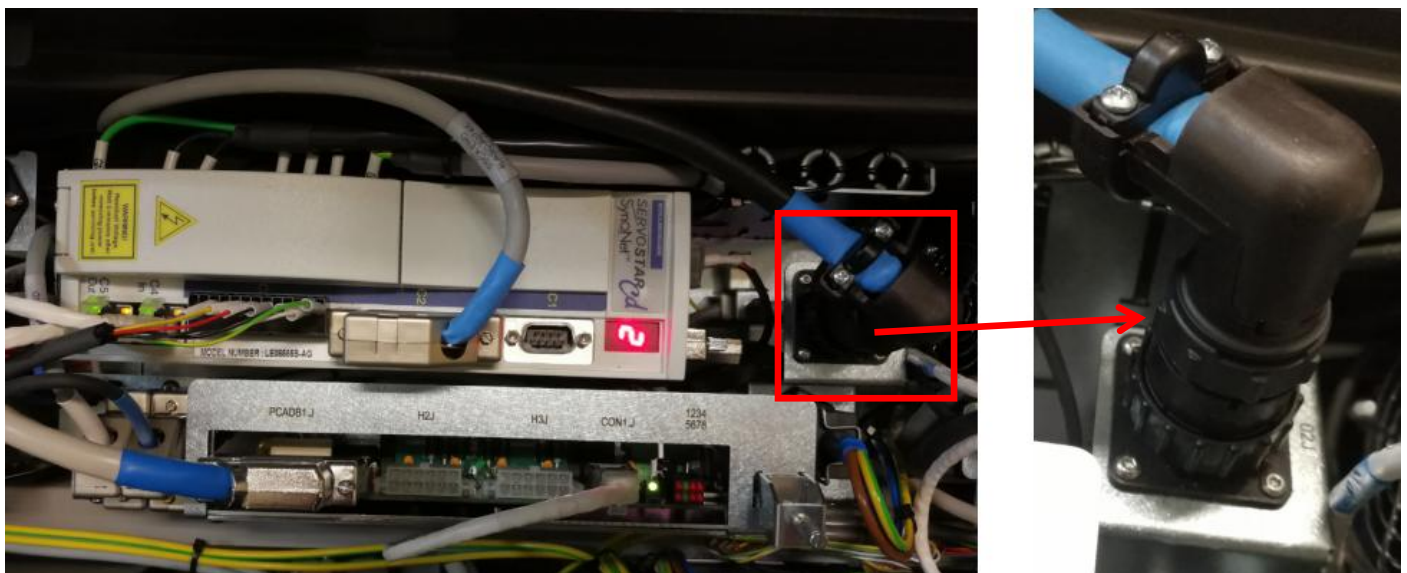

Figure 29
34. Connect X-Axis Motor Power Cable as Figure 29.